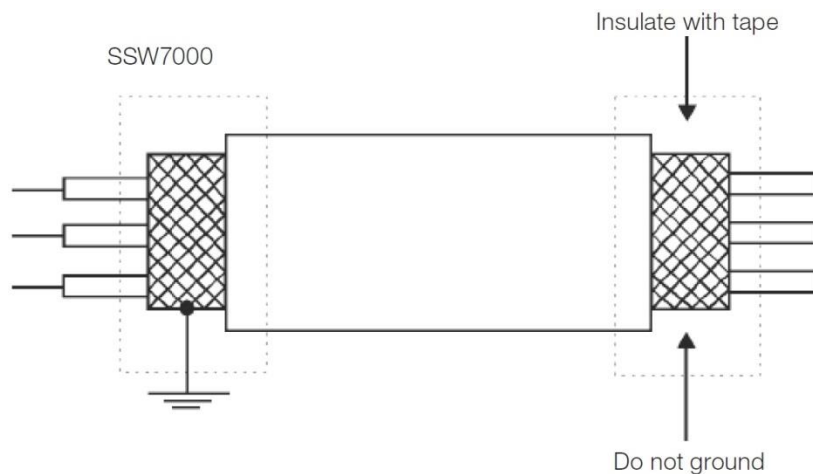
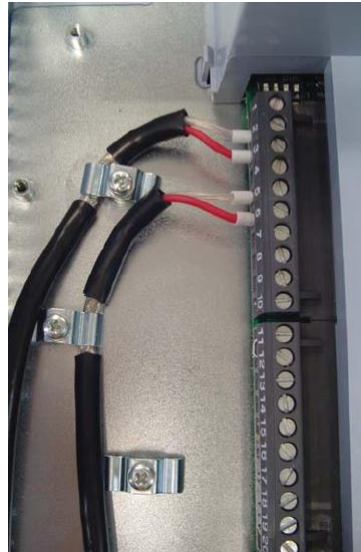

Figure 5.34: Shielding conection
Figure 5.35: Example of cable shield connection of connector XC1
- The figure 5.34 shows the cable shield connection. Refer to the shield connection example showed in the figure 5.35.